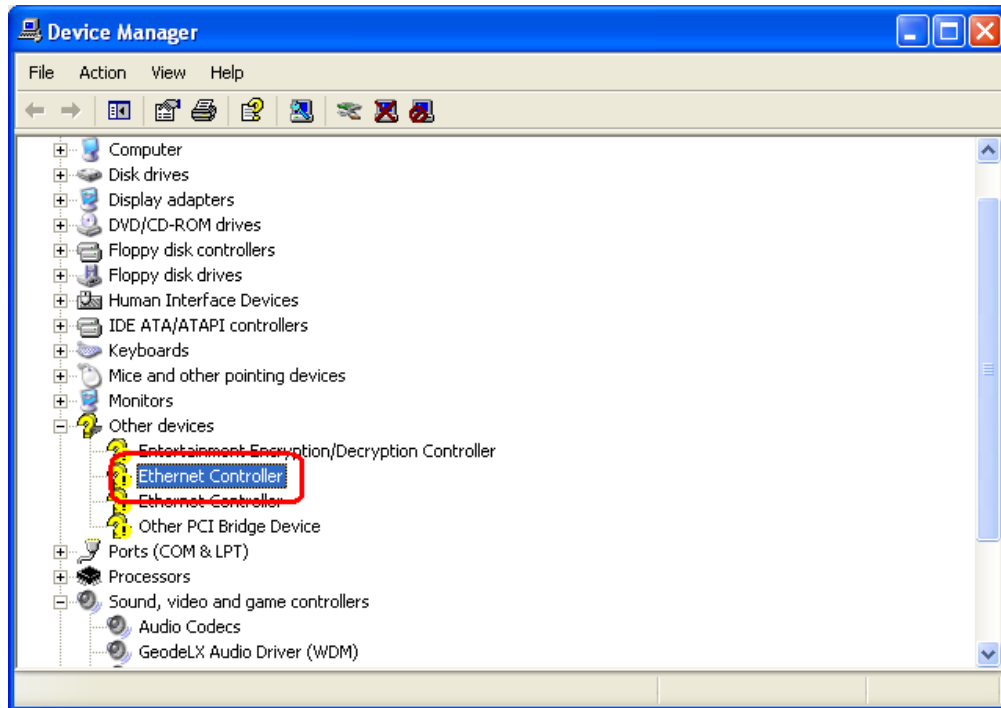

Figure 7-25: Ethernet Controller (Device Manager)
Step 2: Right-click the **ETHERNET CONTROLLER** option listed under **OTHER DEVICES** in **Figure 7-25**.